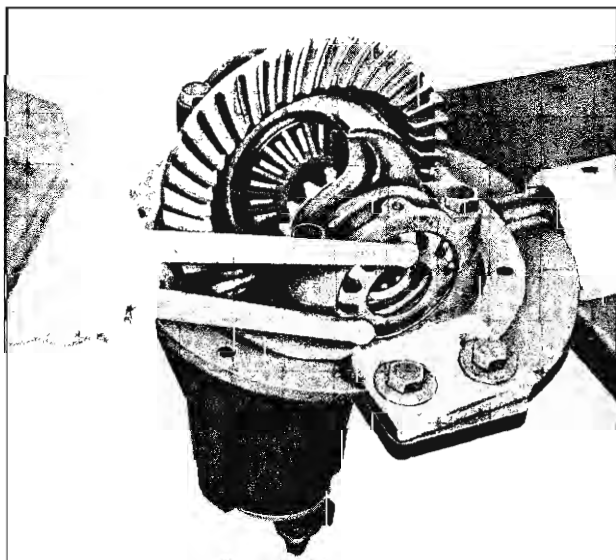

Fig. 31—Adjusting Differential Bearings
1. Back off right hand adjusting nut and tighten left hand adjusting nut using Tool J-0972 while turning ring gear (fig. 31). Continue tightening left hand nut until all lash is removed, then lock left hand adjusting nut in place by tightening left hand bearing cap bolts to 70-75 ft. lbs.